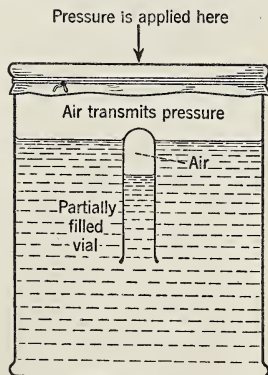

FIG. 105. The Cartesian diver, or bottle imp, demonstrates many laws and principles.
86. What is the Cartesian diver? The bottle imp, or Cartesian diver, illustrates several laws and principles of physics. By careful adjustment, it is possible to put into a small vial just enough water so that the specific weight of the combination, vial and water, will be the merest trifle less than that of water. Any pressure applied to the vial as it floats mouth downward, or any increase in its specific weight, will cause it to sink. (See Fig. 105.) Let us stretch a rubber membrane over the top of the cylinder and apply pressure to the membrane gradually. The vial descends slowly, rising again as we remove the pressure. Why?